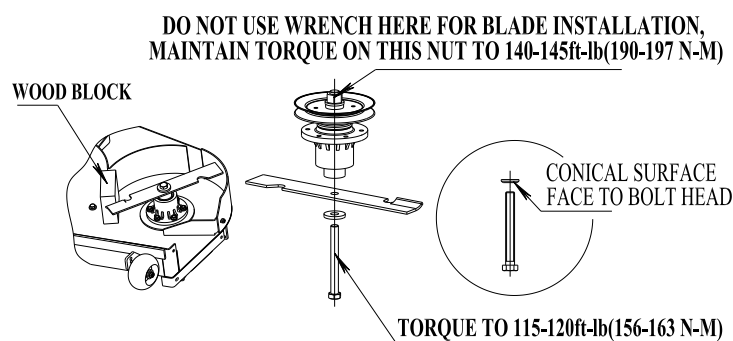

FIG 8
- Re-install the blades (if they were removed) by placing a block of wood between the front or rear baffles and the blade. Torque the blade bolts to 115-120ft-lbs(156-163N-M). Be sure the spring disk washer cone is installed toward the bolt head. (See FIG 8)